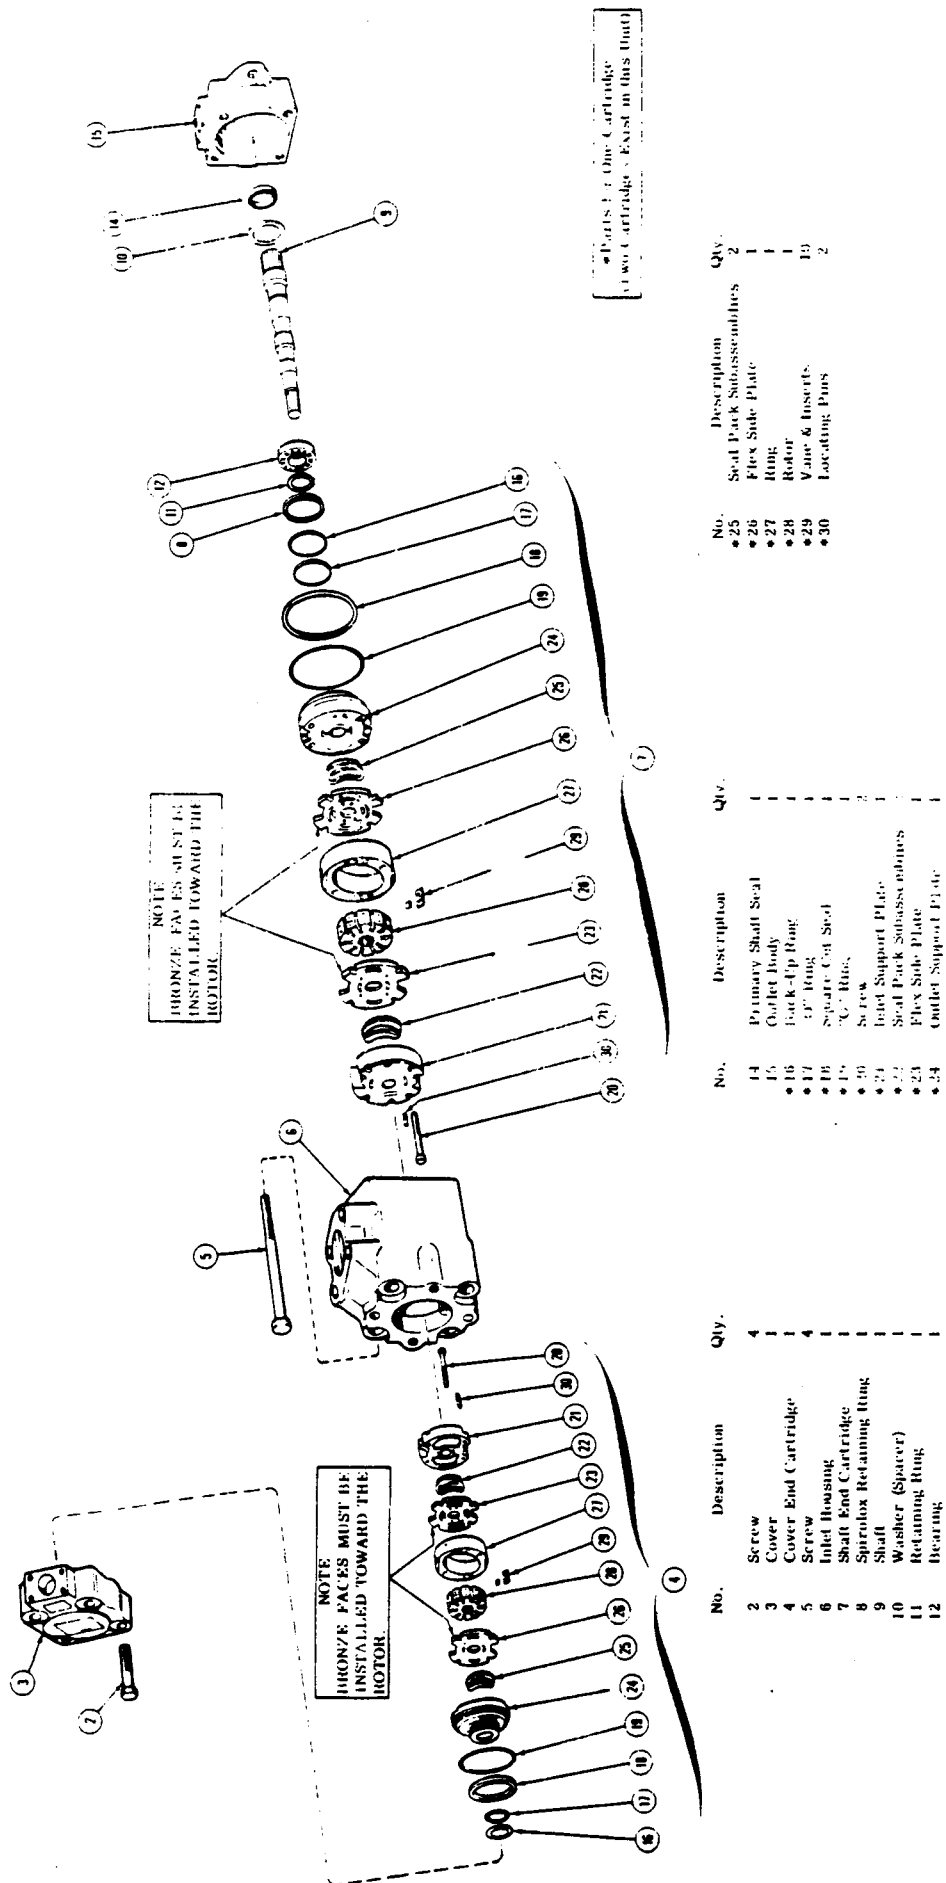

Figure 10. EXPLODED VIEW OF TYPICAL PUMP.
During disassembly, pay particular attention to identification of the parts, especially the cartridges, for correct assembly. Figure 10 is an exploded view which shows the proper relationship of parts for disassembly and assembly. Refer to Figure 1 and Figure 10 for the correct assembled relationship of the parts.
1. Basic Pump: Remove the foot mounting and shaft key (1) if used. Support the pump on blocks or clamp the body in a vise. If a vise is used, use protective jaws to avoid damage to outlet body (15) and its machined surfaces. Mark the pump inlet, outlet and cover for correct reassembly. Remove the four cover screws (2) and lift cover (3) from the pump. This will expose the cover end cartridge (4). Discard square cut seal (18) and o-ring (19).
2. Pull or pry cover cartridge (4) from the inlet housing. Set aside for disassembly during step B8.
3. Remove four screws (5) from the inlet housing (6). Separate inlet housing (6) and outlet body (15). This exposes shaft end cartridge (7). Discard square cut seal (18) and o-ring (19). Refer to Figure 10.
4. Rotate shaft to loosen cartridge (7), then remove the cartridge from outlet body (15). Set aside for disassembly during step B8.
5. Remove spirollox ring (8). Slide shaft (9) and bearing (12) from outlet body (15).
6. If bearing (12) is defective, remove retaining ring (11) and press bearing from the shaft with an arbor press. (Apply force to inner race of bearing).